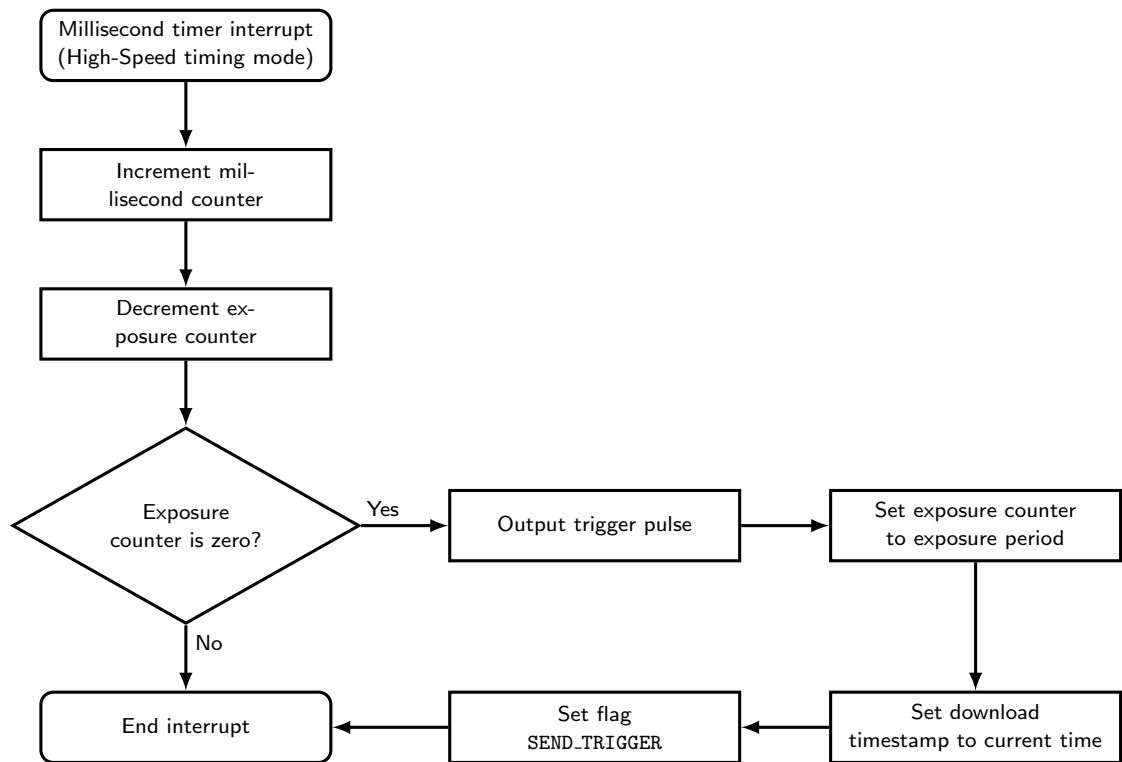

Figure A.6: The millisecond timer is used in the High-speed timing mode as a high-cadence equivalent to the 1 Hz input.
- A timeout used to increment the high-speed exposure counter (Figure A.6 and explained below).